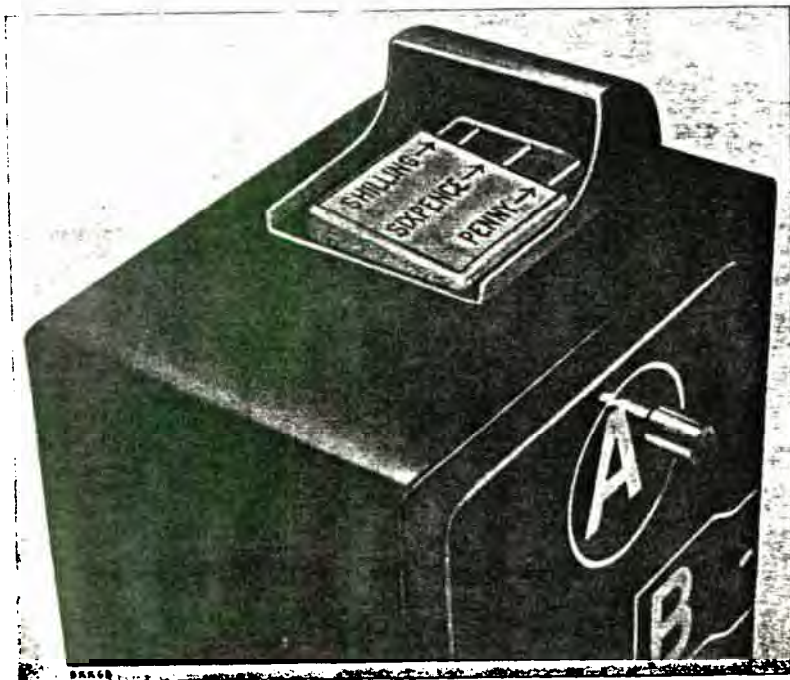

FIG. 1.—PROTECTIVE HOOD FOR BOXES, COIN-COLLECTING
**2. Method of protection.**—A completely satisfactory method of protection is not possible because, since it is necessary to insert coins in the slots, it is also impossible to completely prevent the insertion of obstructive matter. However, it can be made difficult for trouble-makers to operate by placing a hood over the slots. This is designed to allow coins to be slipped in, but to make it difficult for a non-rigid article, such as a bus ticket, to be inserted. Fig. 1 illustrates the hood, which is coded Hood, Coin Slot, No. 1 and is obtainable from the Supplies Dept.